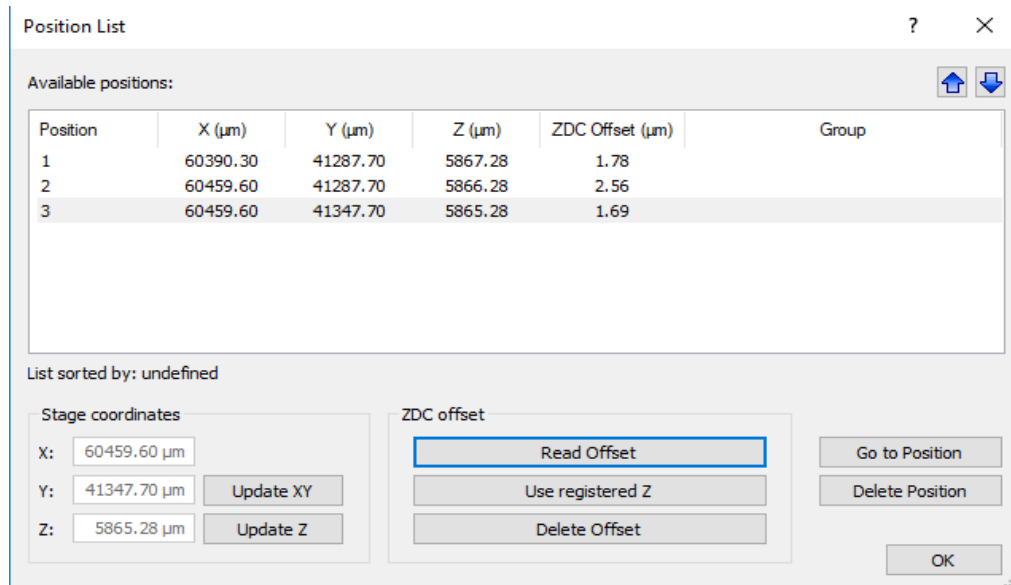

Fig. 5 Position List
4. Open the *position list* window to view your list of positions Fig.5). There's an icon for it in the **Stage Loop** dialog in **Experiment Manager** dialog.